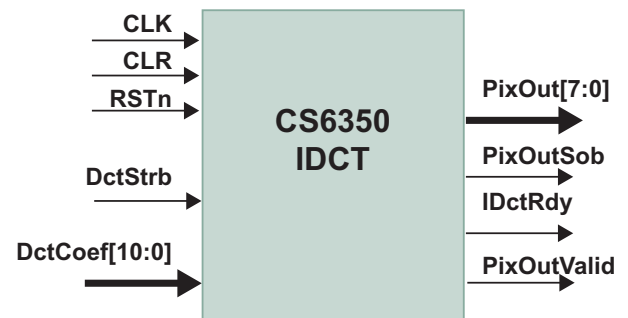

Figure 2: CS6350 Core Pinouts
Table 1 describes the input and output ports (shown graphically in Figure 2) for the CS6350 High Performance IDCT core. Unless otherwise stated, all signals are active high and bit (0) is the least significant bit.